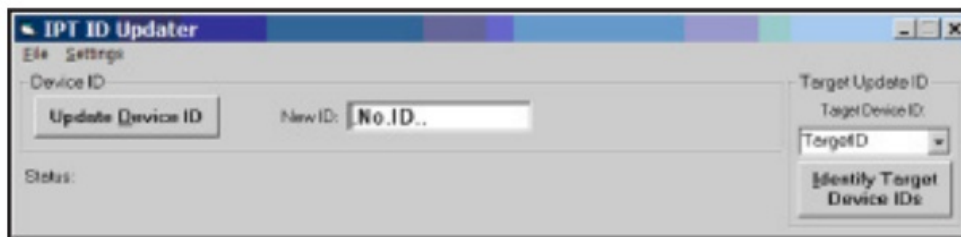

FIGURE 6
1. To start the Pak-Link ID Updater software, go to the WINDOWS START Menu and select "All Programs." Look in the "Scott Health & Safety" program folder to find the shortcut to the "Pak-Link ID Updater" program. See FIGURE 6.